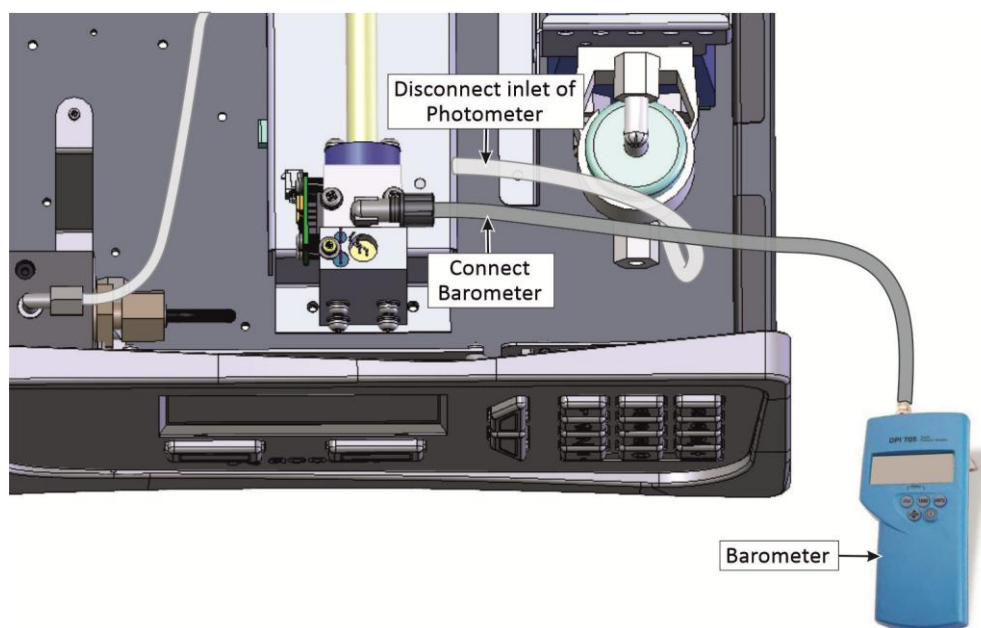

Figure 147 – Disconnect inlet of Photometer
3. Disconnect the inlet of the Photometer as shown in Figure 147.
4. Refer to Figure 147. Now connect the barometer to the outlet of the Photometer.